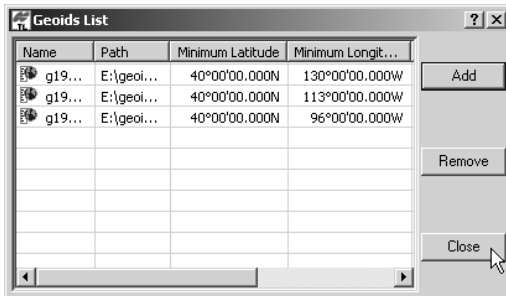

Figure 3-66. Geoids List
4. Click **Close** (Figure 3-66).